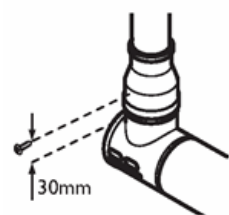
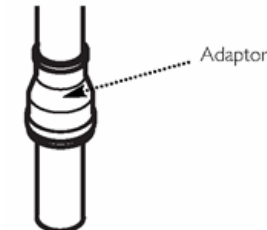

Fig. 30
Fig. 31
9. The 60Ø exhaust can now be fitted. Slide the adaptor over the plain end of the 60Ø exhaust (Fig. 31) and engage the exhaust in the terminal. Slide the adaptor down over the spigot. Mark and drill the adaptor, using a 2mm bit, as shown in Fig. 30. Secure the adaptor to the spigot using one of the screws supplied.